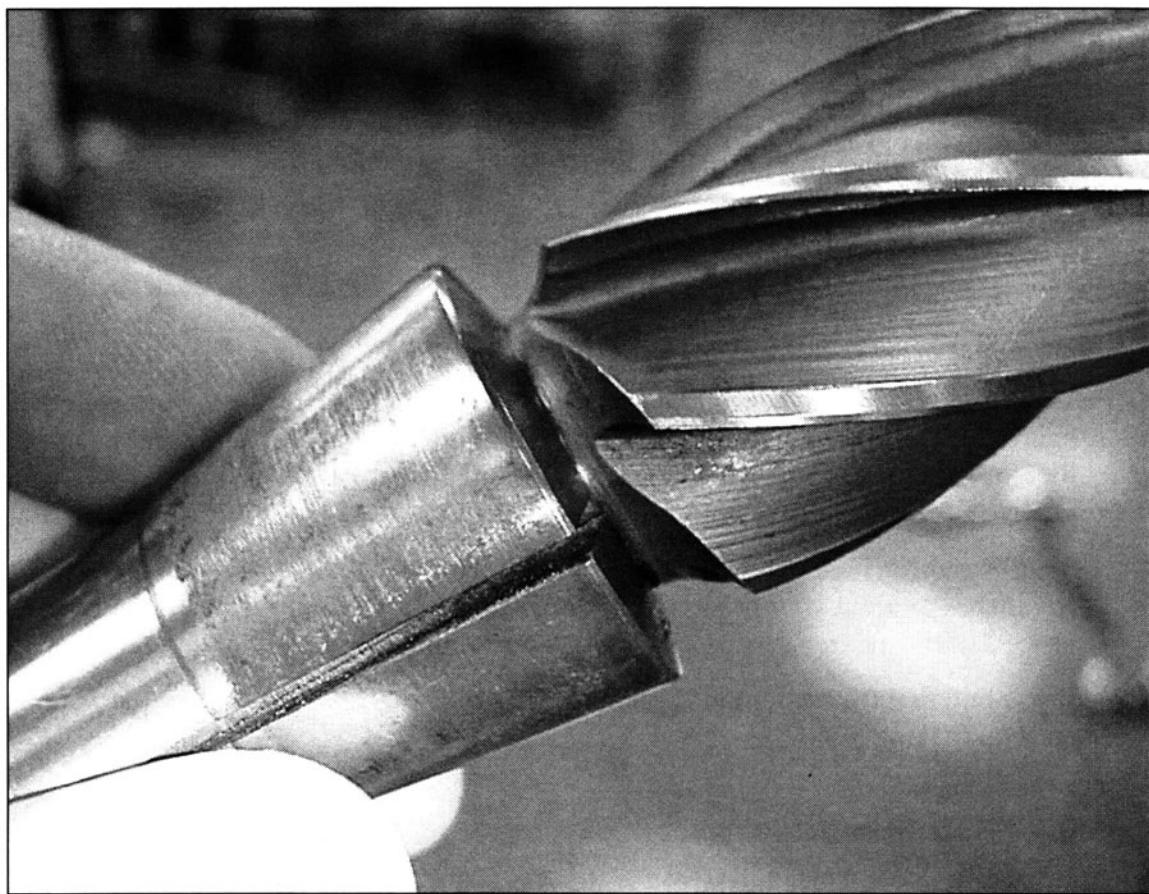

FIGURE 2-9 Clamping on cutter shank radii can cause cutters to come loose. It's a condition that must be avoided.
45. *Avoid clamping on a tool radius. (See Fig. 2-9)*